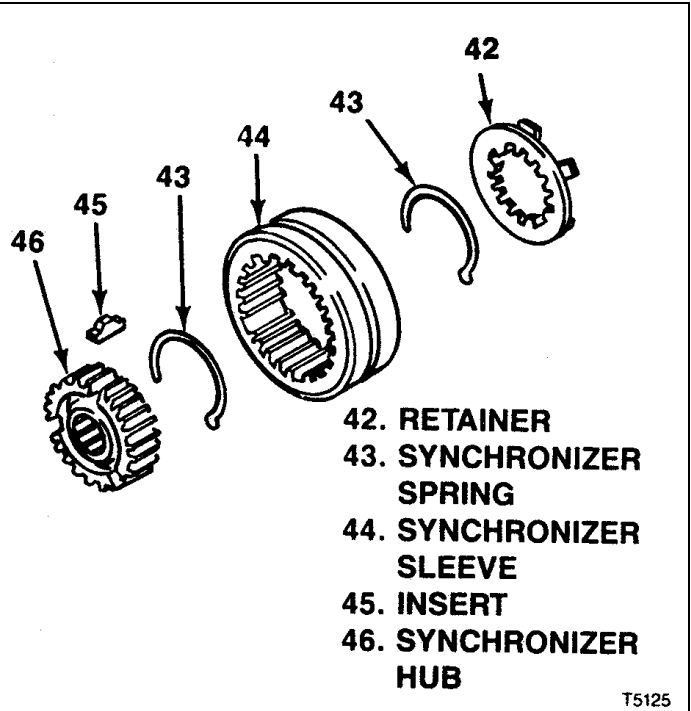
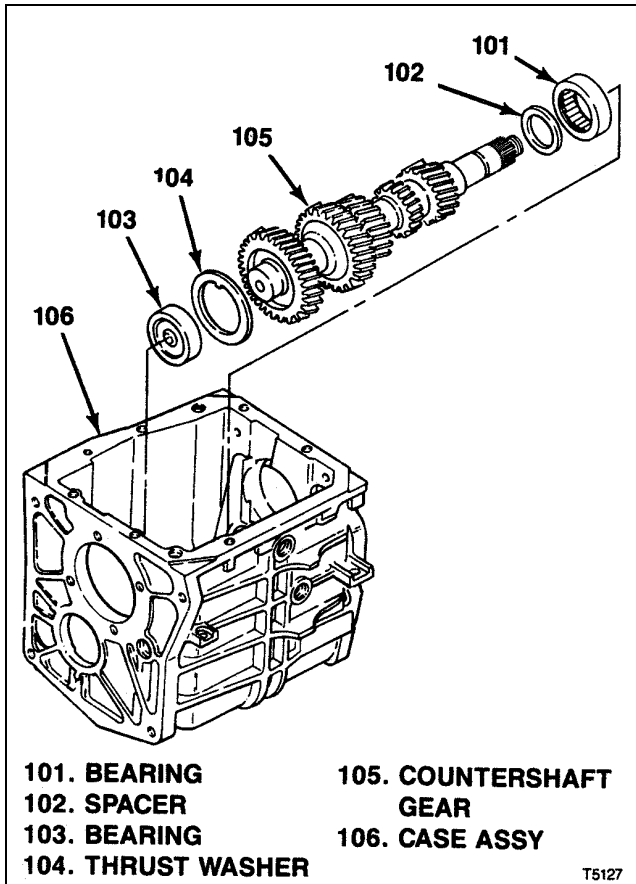

Figure 4-13. T5 STD 5th Synchronizer Assembly
Figure 4-12. T5 STD Countershaft Gear
**4-18. REMOVAL OF T5 STD COUNTERSHAFT GEAR** (see figure 4-12):
- Push countershaft gear (105) rearward to force bearing (101) and spacer (102) out of transmission case (106).
- Tilt front end of countershaft gear (105) up and remove from top of transmission case (106).
- Press bearing (103) from transmission case (106). Remove thrust washer (104).
**4-19. DISSASSEMBLY OF T5 STD 5TH SYNCHRONIZER ASSEMBLY.** Mark synchronizer sleeve (44) and hub (46) so that clutch teeth and faces can be assembled exactly as they were originally. Sleeve and hub are a matched set, selected at manufacture. Disassemble as follows (see figure 4-13):
- Remove retainer (42).
- Unhook and remove springs (43).
- Slide sleeve (44) from hub (46), freeing inserts (45).
**4-20. DISASSEMBLY OF T5 STD 3RD-4TH SYNCHRONIZER ASSEMBLY.** Mark synchronizer sleeve (76) and hub (78) so that clutch teeth and faces can be assembled exactly as they were originally. Sleeve and hub are a matched set, selected at manufacture.